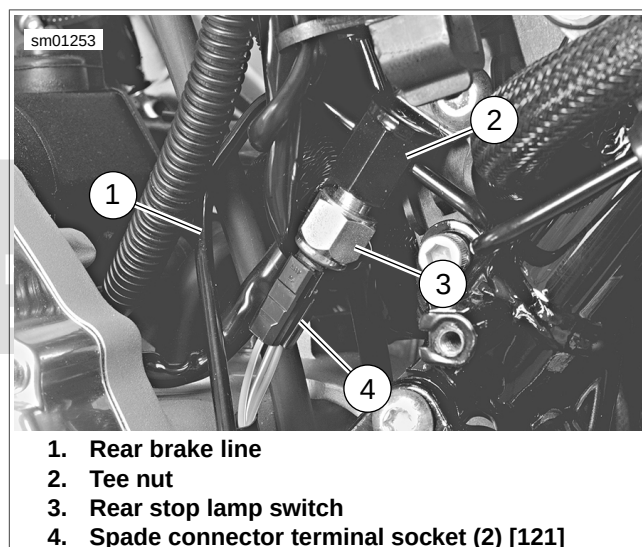
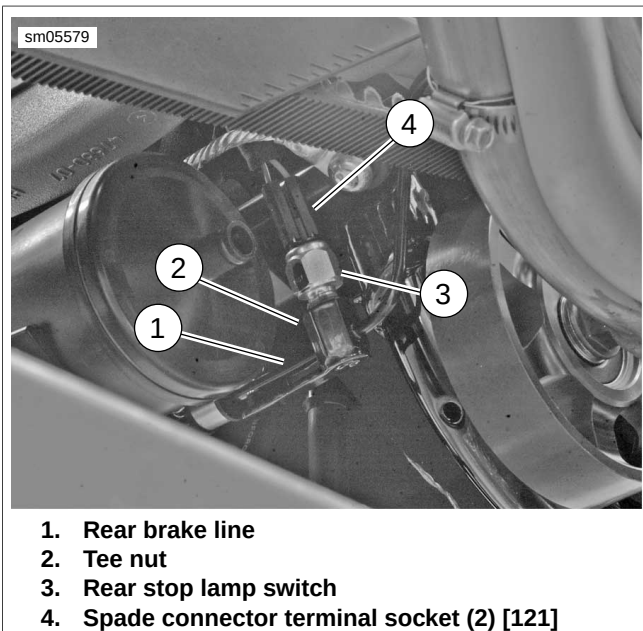

Figure 6-97. Rear Stop Lamp Switch: XL Models Only
Figure 6-98. Rear Stop Lamp Switch: XR Models Only
XL models only: See Figure 6-97. The rear stop lamp switch (3) is located behind the rear brake master cylinder reservoir under the left side cover. The rear stop lamp switch is threaded into a tee nut in the rear brake line.
3. See Figure 6-97 or Figure 6-98. Pull terminal sockets from spade connections (4) on stop lamp switch.
4. Remove stop lamp switch (3) from tee nut (2).
5. Thread **new** stoplight switch (3) to tee nut (2) on brake line. Tighten switch to 84-120 **in-lbs** (9.5-13.6 Nm).
6. Install terminal sockets on switch spade connections (4).